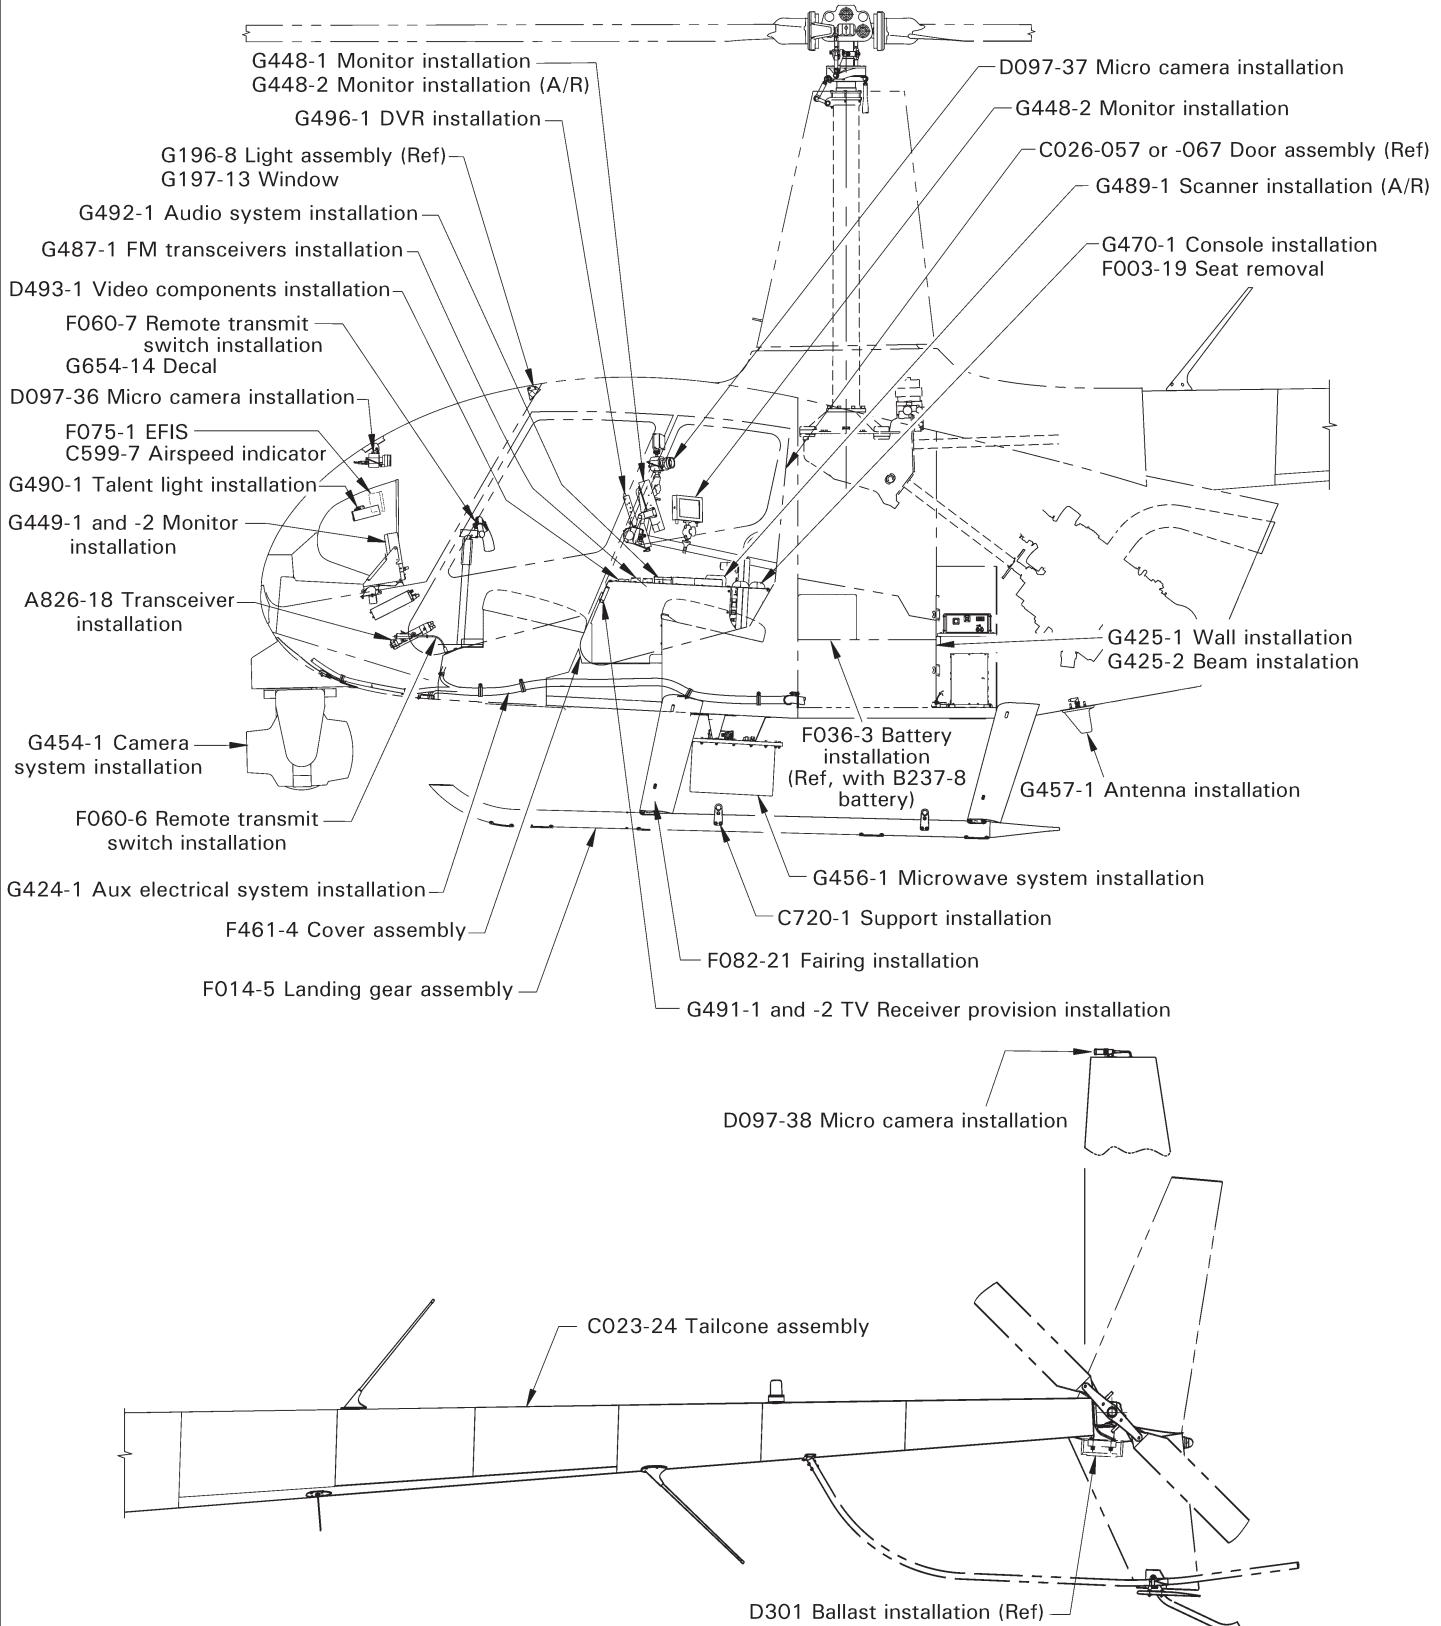

FIGURE 92-1 ENG VERSION
1. Refer to Figure 92-1. Turn battery & avionics switches off and pull out FM1 (10 amp) circuit breaker at panel.
1. Refer to Figure 92-1. Turn battery & avionics switches off. Open circuit breaker panel.
Refer to Figure 92-1. The C023-24 tailcone assembly has wiring provisions for the ENG version's D097-38 HD micro camera (tail).
Refer to Figure 92-1. C599-7 (120 knot V_{NE}, KM/H) airspeed indicator replaces C599-2 (140 knot V_{NE}, KM/H) airspeed indicator.
Refer to Figure 92-1. Remove hardware securing C719-1 support to C242 skid tube and remove support.
1. Refer to Figure 92-1. Turn battery & news equipment switches off, and pull out MICRO CAMS (2 amp) circuit breaker at panel.
1. Refer to Figure 92-1. Turn battery & news equipment switches off. Open news equipment circuit breaker panel.
2. Refer to Figure 92-1. Turn battery & news equipment switches off, and pull out MICRO CAMS (2 amp) circuit breaker at panel.
1. Refer to Figure 92-1. Turn battery & news equipment switches off. Open circuit breaker panel.